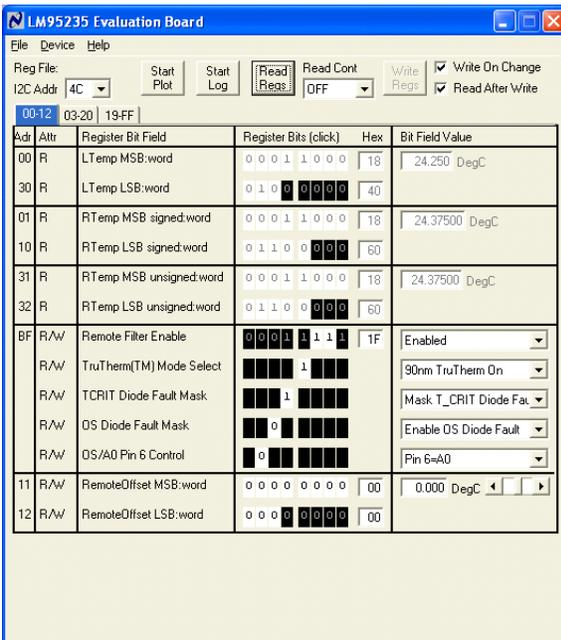

Figure 6
- The next screen will look like Figure 6 below.